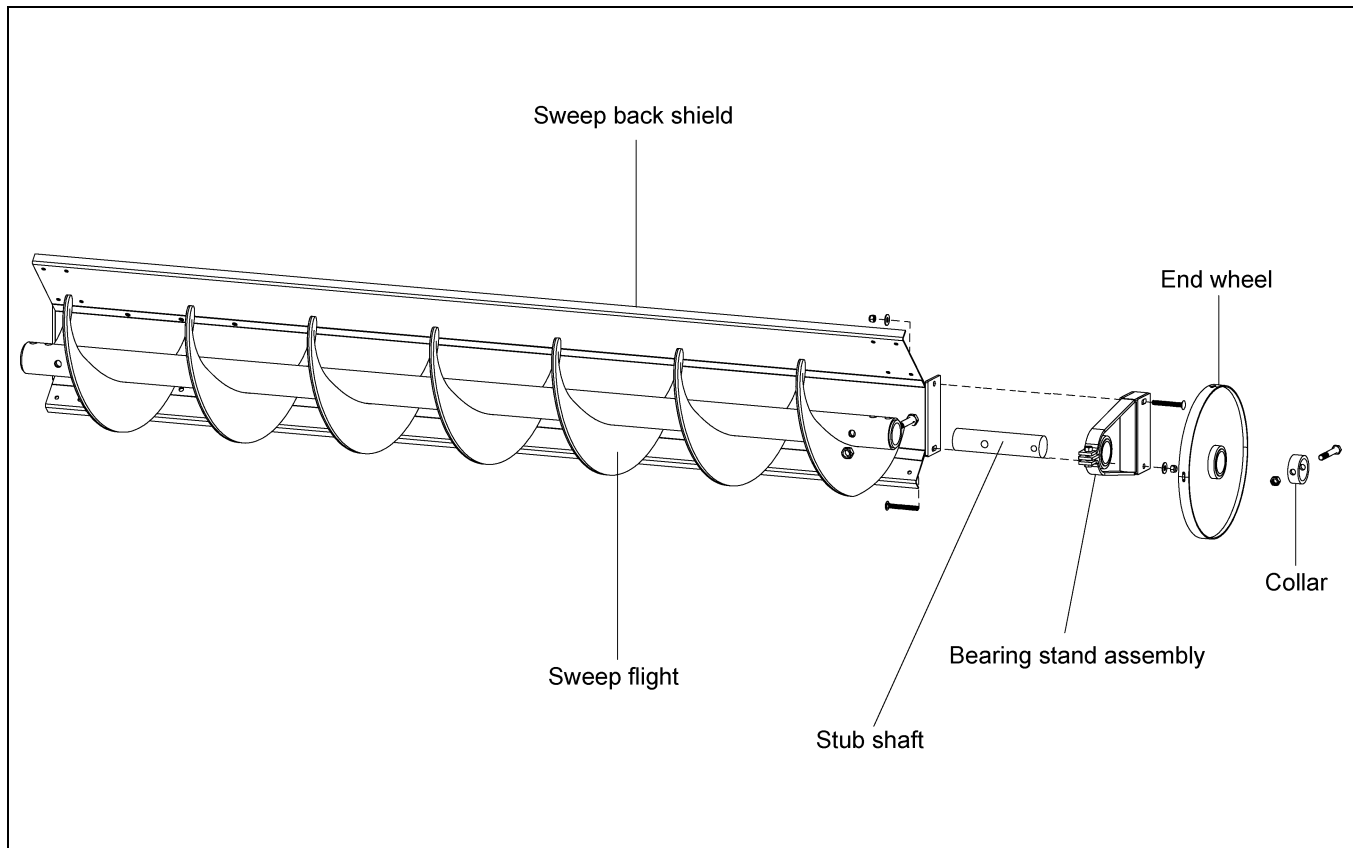

Figure 4L End Wheel Assembly
2. Install the bearing stand assembly onto the stub shaft and bolt it to the sweep shield using two (2) 3/8" x 3" carriage bolts, flat washers and nylock nuts.
3. Install the end wheel and collar onto the end of the stub shaft. Pin the collar in place with a 1/2" x 3-1/2" hex head cap screw and prevailing torque lock nut. \(See Figure 4L.\)